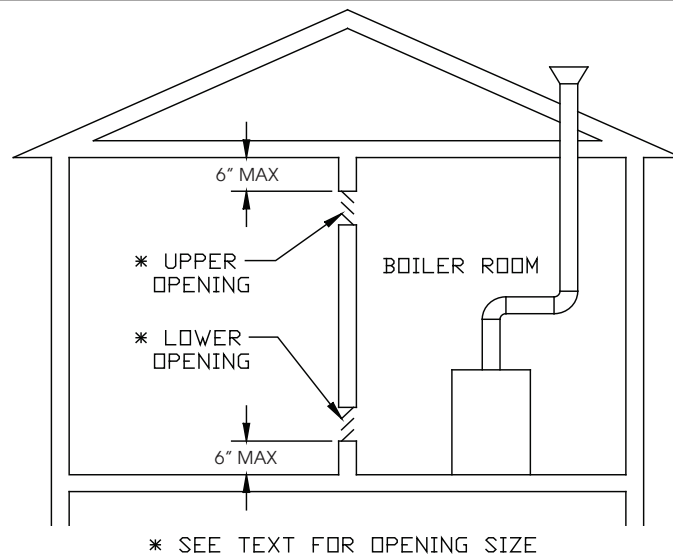

Figure 5.1: Indoor Combustion Air Method
- 4) If the result is at least 50 ft³ per 1000BTU/hr, and neither of the conditions described in (6) below are met, normal infiltration should provide adequate fresh air into the boiler room.
- 5) If the result is less than 50 ft³ per 1000BTU/hr, provide two openings into the boiler room, one near the floor and one near the ceiling. The top edge of the upper opening must be within 6” of the ceiling and the bottom edge of the lower opening must be within 6” of the floor (Figure 5.1):
Although combustion air is supplied through the air intake piping, ventilation air is still required around the boiler to prevent overheating of boiler components. If the boiler is installed in a closet, provide two openings in the closet, each having a net free area of 100 square inches as shown in Figure 5.1. Note that these openings are independent of the boiler size. Additional area may be required if other fuel burning appliances are installed in this closet.